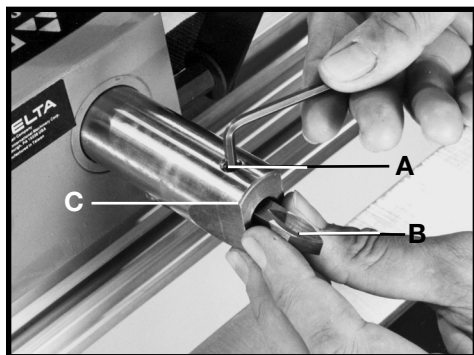

Fig. 45
Loosen set screw (A) Fig. 45, and insert cutting tool (B) into cutting tool arm (C) until the edge of cutting tool (B) extends approximately 1" out from the cutting tool arm (C). Tighten set screw (A).